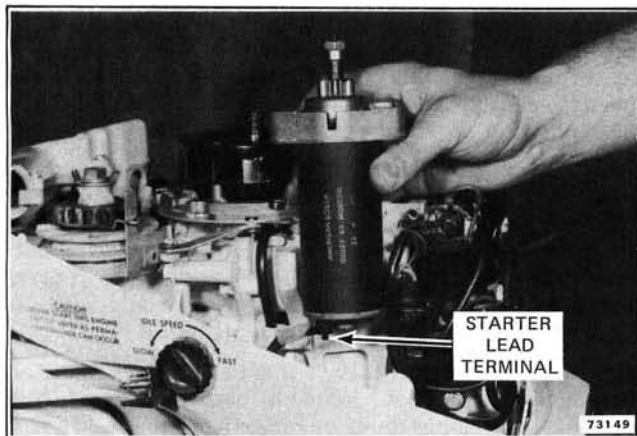

Figure 7-2. Removing Electric Starter
- Remove two screws and starter from by-pass cover. See Figure 7-2.
c. Disconnect starter lead at bottom of starter. See Figure 7-2.
1. Install red lead to starter. See Figure 7-2.
1. Shift into neutral. Disconnect starter motor red lead. See Figure 7-2, and disconnect battery cables at battery.